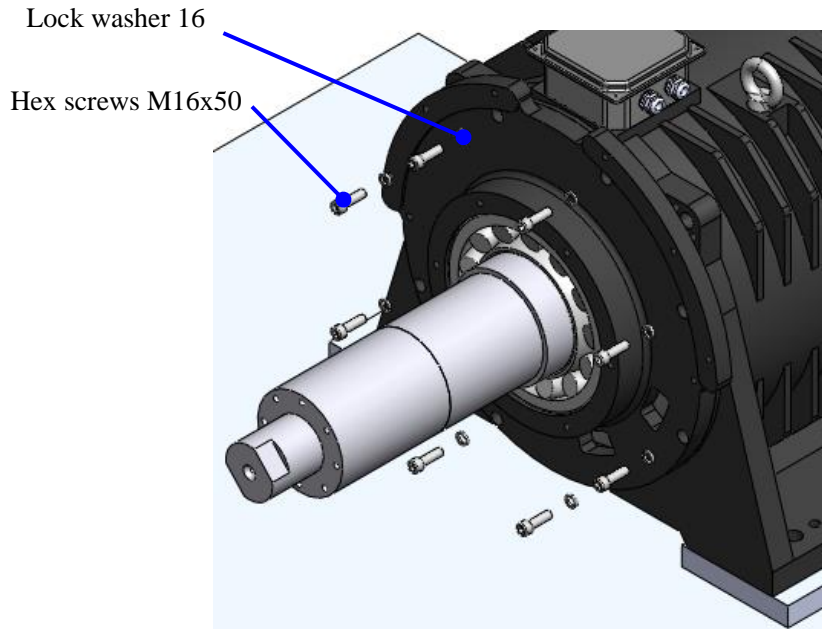

Figure 140: Remove M16x50 bolts and lock washers
5. Make a mark in the front-cover and machine-base. Remove 8 hex screws M16x50 and lock washer16 with hex wrench (14mm). See Figure 140.